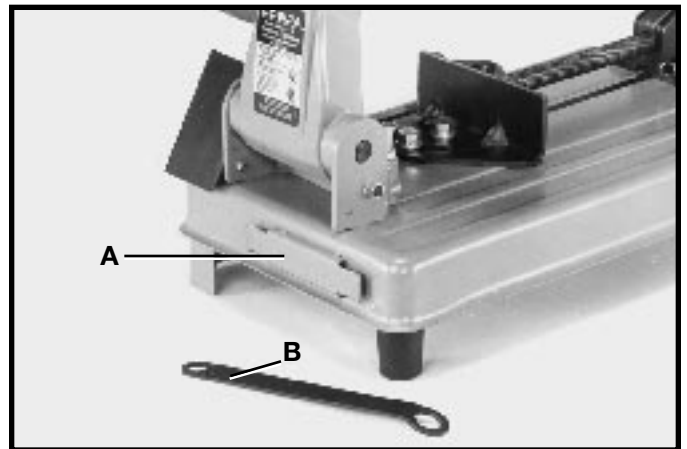

Fig. 16
A built-in clamp (A) Fig. 16, is provided on the back edge of the machine base for convenient storage of the adjusting wrench (B), which is supplied with your machine.